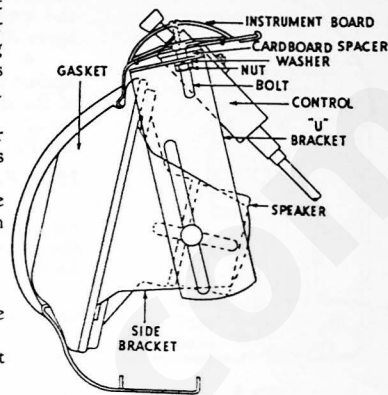

Figure 5
3. Fasten the two "L" brackets on the control mounting bracket with the nuts, bolts and washers, using one cardboard spacer under each bolt to space the "L" bracket away from the control mounting bracket. Make sure that the long slots in the side of the "L" brackets are toward the grille and the bottom of the "L" brackets outward. (See figure 5).
5. Loosely assemble the side brackets on the speaker to the "L" brackets, and force the speaker forward and in position as shown in Figure 5. Then tighten the nuts.
The installation in the Mercury cars is the same as the installation in the Ford cars. (See figure 5).